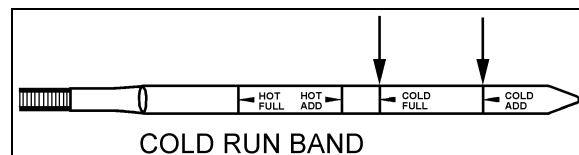

FIGURE 4: COLD CHECK
3. Shift to Drive (D) and operate the engine for 30 seconds at 1000-1500 rpm; then shift to Reverse (R) to clear the hydraulic system of air.
5. Finally shift to Neutral (N) and allow the engine to idle (500 - 800 rpm).
6. While the engine is running, remove the dipstick from the tube and wipe it clean (Figs. 4 & 5). Insert the dipstick into the fill tube, pushing down until it stops.